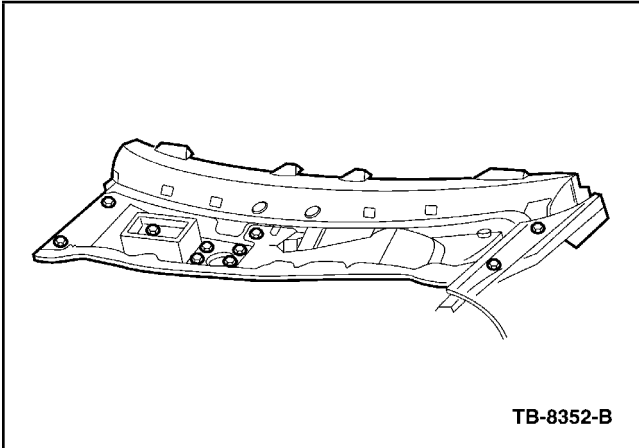

Figure 4 - Article 05-23-7
7. Remove the lower cowl panel assembly (Figure 4).